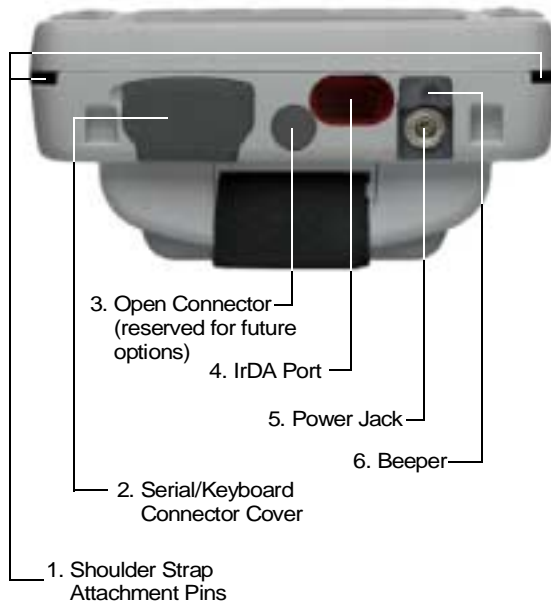

Figure 7. The PTC-2134 (bottom view).
2. Pull open the serial/keyboard connector cover (see Figure 7 on p. 32).